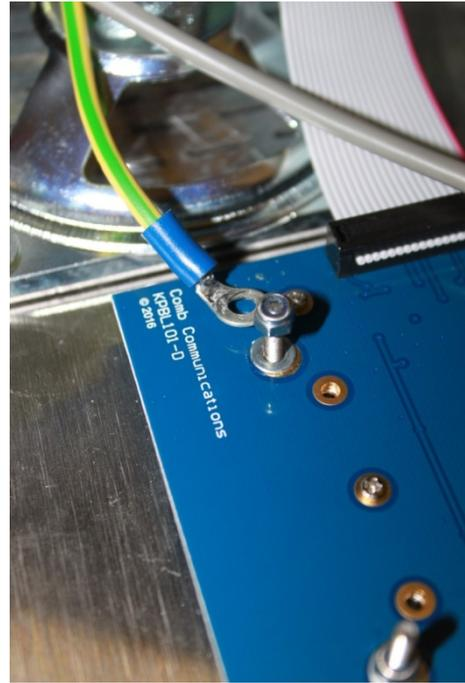

Figure 15: Replace the Nut and Washers
8. Replace the nut and washers on the screw so that you don't misplace it (See Figure 15.)